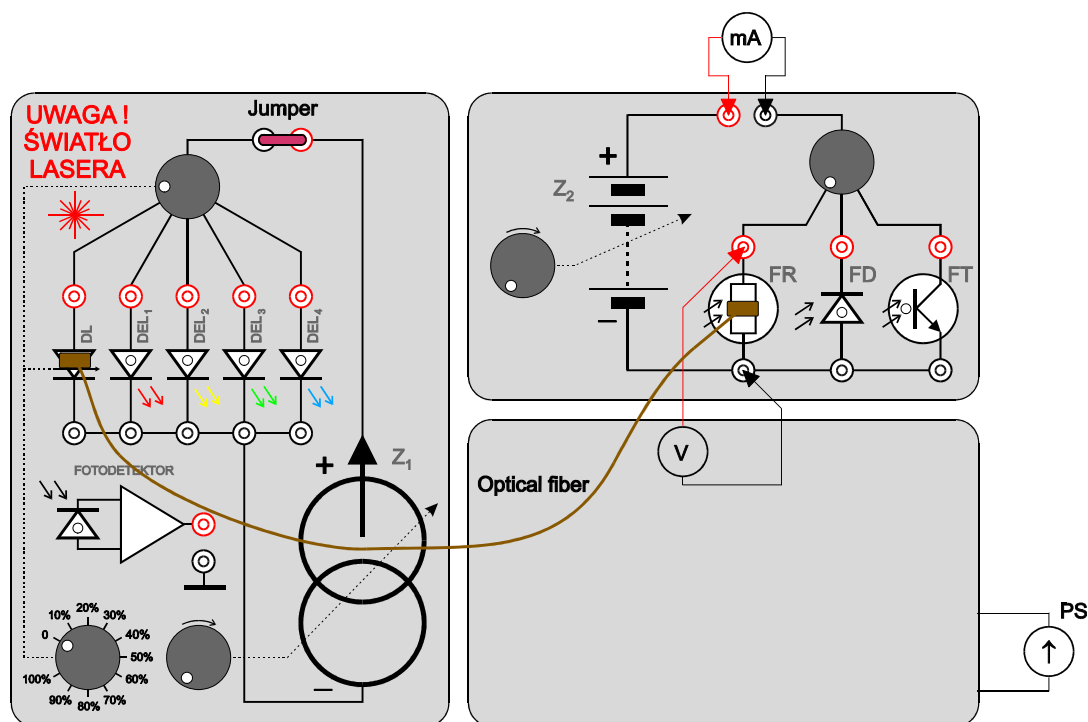

Fig. 2. Setup for determination of current-voltage characteristics of photodetectors in relation to illumination intensity level.
- Unless the supervisor orders otherwise, choose by yourself two of three available photodetectors for measurements. Connect the circuit shown in Fig. 2. Set the measurement range to 200 mA DC on the DMM milliammeter (mA) and to 20V DC on the voltmeter (V).
- Turn the switch over the light-emitting diodes (top-left side) to select the dashed line leading to the regulator of relative light intensity of the laser diode (DL) and use the switch over the photodetectors (top-right side) to select one of the chosen photodetectors. Connect the laser diode DL with the photodetector using an optical fiber.